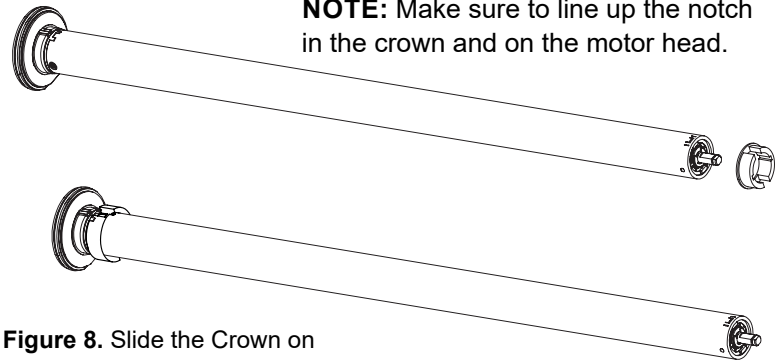

Figure 8. Slide the Crown on
Step 4. Slide the crown onto the motor as shown in **Figure 8**.